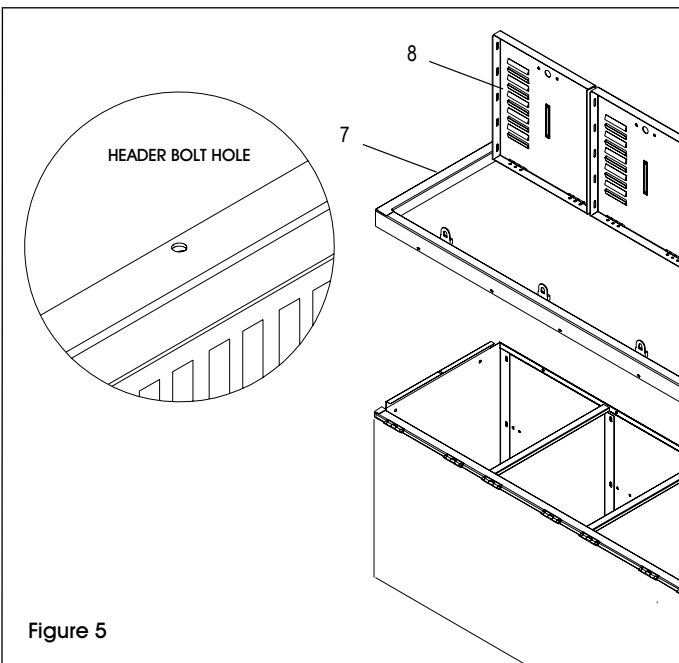

Figure 5
7. Place door and frame assemblies (7 and 8) over the locker body. Make sure body sides are inside the frames, not between the frames. Attach top to frame header and the bottom to frame sill using one bolt each. Finish by attaching sides of door to frame using 14 bolts and nuts. (See Figure 5) If joining a 1-wide unit beside another unit, see JOINING UNITS TOGETHER below.